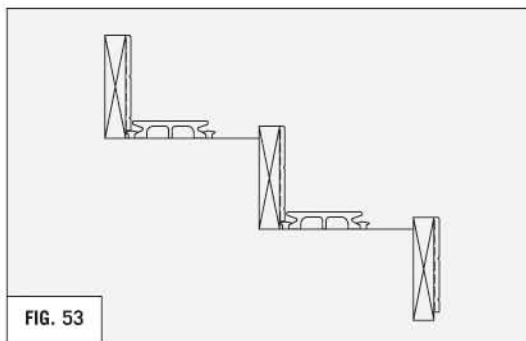

FIG. 53
- Attach cladding to the support lumber with three #8 x 1 - 5/8" deck screws along the top edge. These screws will be hidden after the bullnose is installed. Use only 1 - 5/8" screws or shorter to prevent the screws from coming out the other side of the support lumber and interfering with the bullnose. (REFER TO FIG. 53)